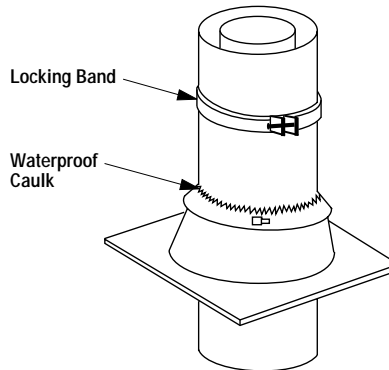

Figure 31
Step 8. Slide the FTF8 storm collar (ordered separately) over outer chimney, rest on flashing spacers and align with top surface of flashing. Insert tab in slot, pull tight and bend tab back over slot. Seal storm collar to outer chimney with roof caulking or mastic around entire circumference of pipe. Also add extra roof caulking to the tab/slot area to seal completely against water penetration (Figure 31). Check all joints very carefully to ensure no water intrusion can take place.
Step 9. Security Chimneys locking bands, Model FLB, may be required if the chimney extends too high above the roof flashing. As a general rule, if the chimney extends more than 6' above the roof flashing, the use of locking bands is advisable to strengthen the chimney assembly. Align the locking band at the chimney joint. Locking bands wrap around pipe joints equally covering the joints of both pipe sections. Use the nut provided and TIGHTEN snugly. Do not overtighten as this might damage the chimney section (refer to Figure 31).